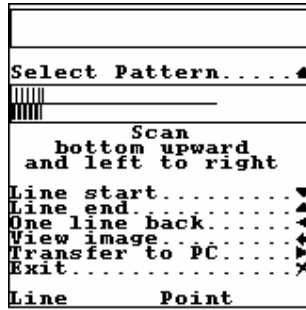

Fig. 66
5. Set the menu marker to the “**Impact method**” menu item and press the Enter key. On the display will appear the “**Impact method**” mode, containing two rectangles and key functions description (Fig. 66).